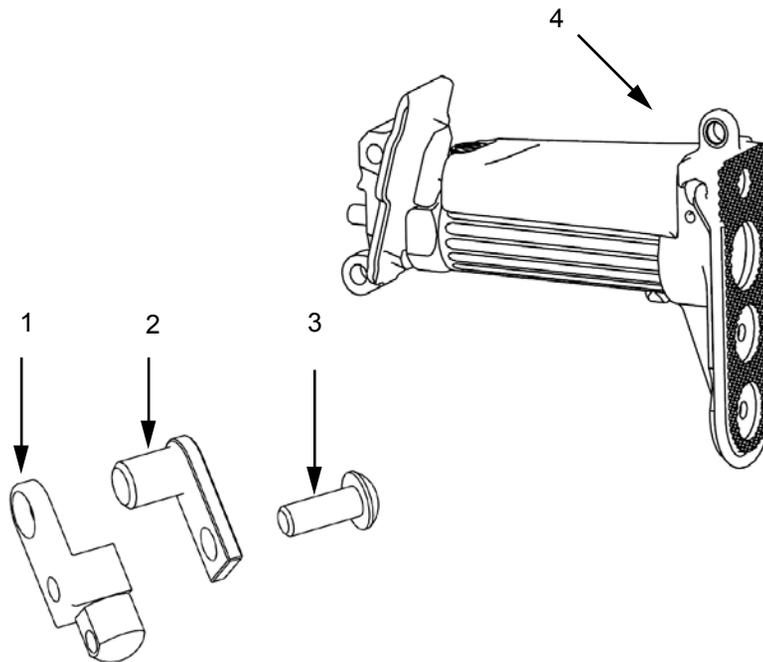

Figure 3. Rear Mounted Sling.
1. Place lug (Figure 3, Item 2) through hole in butt plate eyelet (Figure 3, Item 4).
2. Install stud lug (Figure 3, Item 1) on opposite side of butt plate eyelet (Figure 3, Item 4).
3. Apply one drop of blue loctite 246 to threads of cap screw (Figure 3, Item 3).
4. Attach lug (Figure 3, Item 2) to stud lug (Figure 3, Item 1) by screwing cap screw (Figure 3, Item 3) through lug (Figure 3, Item 2) and into stud lug (Figure 3, Item 1) and snug down 9/64 cap screw (Figure 3, Item 3).